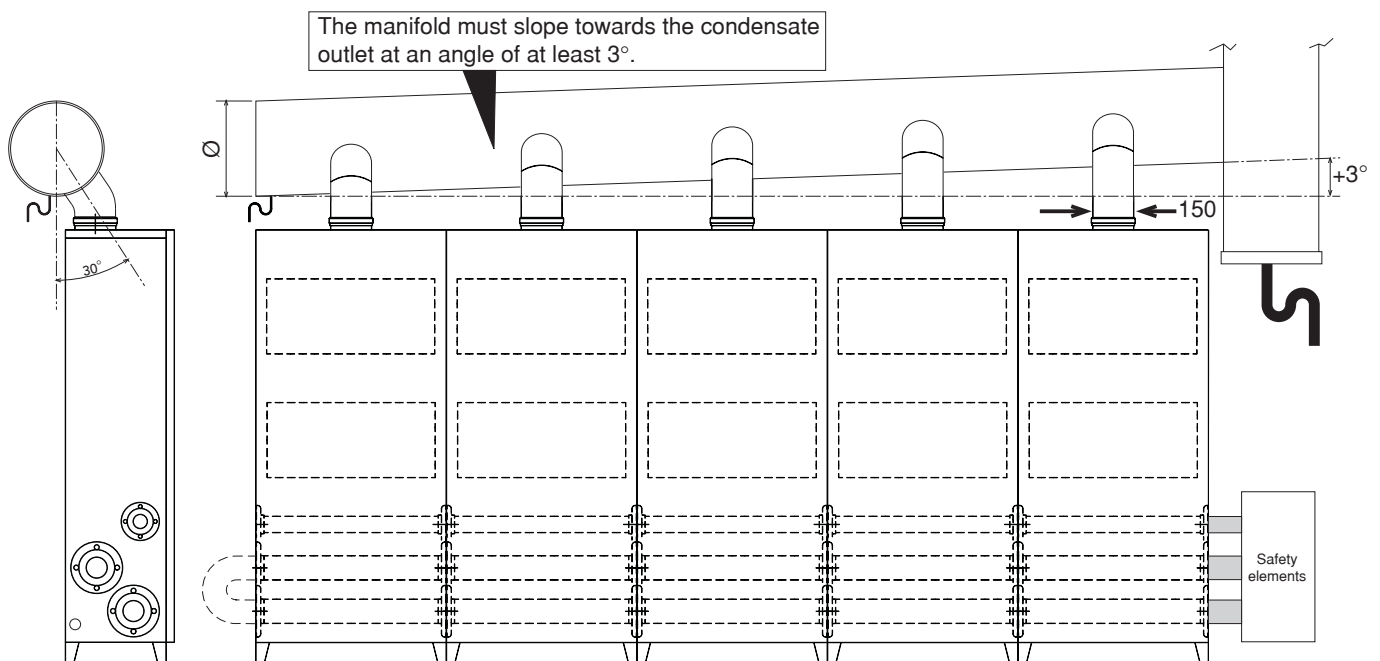

Fig. 11
- To connect several modules in cascade, connect the fume outlets ($\varnothing 150$) of the single modules as shown in the figure, taking care to observe the manifold and flue diameters given in the table alongside here. The single flues must be coupled onto the manifold at an angle of approximately 30° to the vertical (Fig. 11).